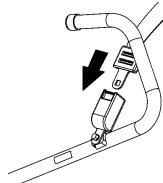

FIG. 12 FASTEN OCCUPANT RESTRAINT BELT
3. Make sure OCCUPANT RESTRAINT BELT is fastened (**FIG. 12**) with 3" - 4" of slack in belt.